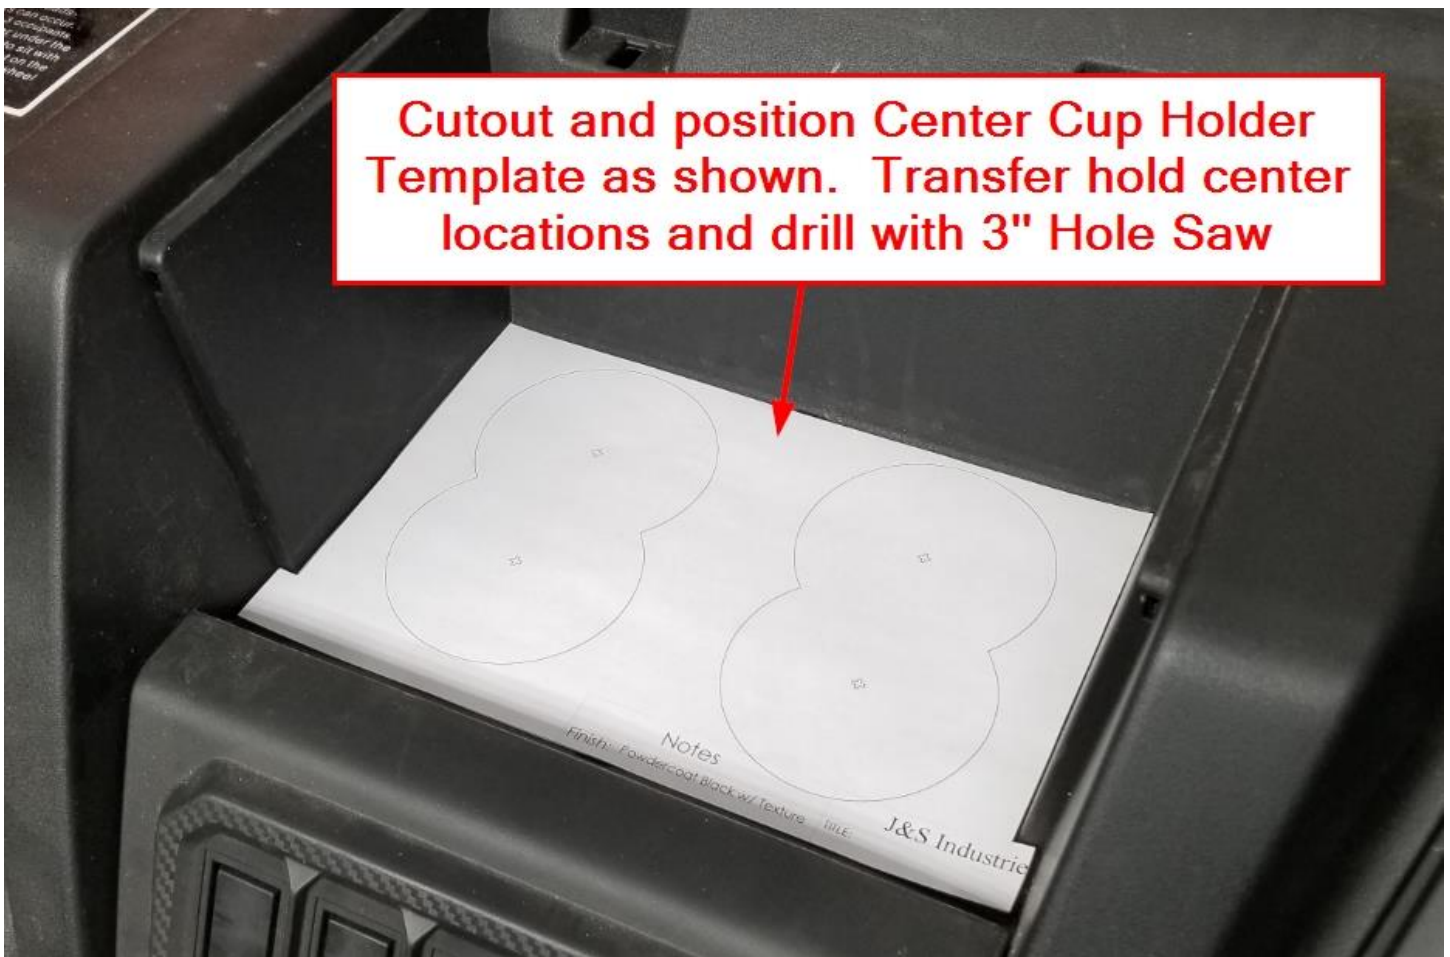

Figure 3
- b. Position the Center Cup Holder Templates as shown in Figure 3. Transfer the hole centers as shown on the template and use the 3" hole saw with arbor to drill the holes.